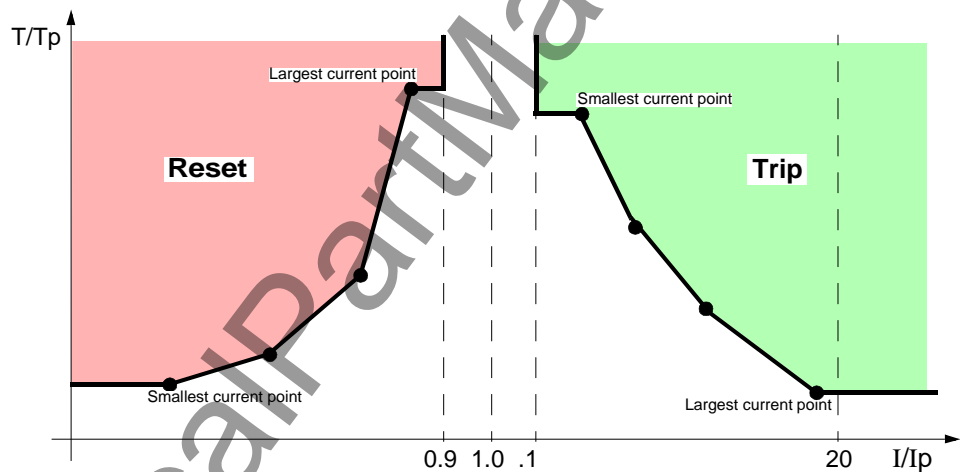

Figure 2-59 User specified characteristic — example
- Currents smaller than the current value of the *smallest* characteristic point do not lead to a prolongation of the tripping time. The pickup characteristic (see Figure 2-59, right side) goes parallel to the current axis, up to the *smallest* characteristic point.
- Currents greater than the current value of the *greatest* characteristic point do not lead to a reduction of the tripping time. The pickup characteristic (see Figure 2-59, right side) goes parallel to the current axis, beginning with the *greatest* characteristic point.
- Currents greater than the current value of the *greatest* characteristic point do not lead to a prolongation of the dropout time. The dropout characteristic (see Figure 2-59, left side) goes parallel to the current axis, up to the *greatest* characteristic point.
- Currents smaller than the current value of the *smallest* characteristic point do not lead to a reduction of the dropout time. The dropout characteristic (see Figure 2-59, left side) goes parallel to the current axis, beginning with the *smallest* characteristic point.